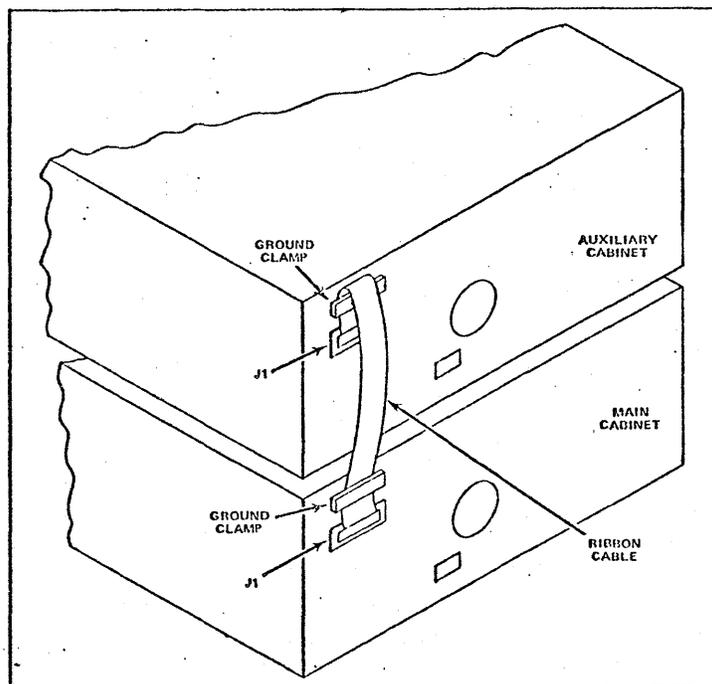

Figure 3-15. Plugging ribbon cable to connector J-1 on main and auxiliary cabinets.
Pin 1 of the cable is positioned to the left on both cabinets. This will position the ground braid out and the cable will be looped over at the top cabinet. Refer to Figure 3-15.
3. Install the ground clamps on each of the cabinets so that they trap the ribbon cable between the back of the cabinet and the clamp at the exterior ground strip on the ribbon cable. Tighten the screws securely, but do not overtighten. Refer to Figure 3-15.
Replace Figure 3-15 as shown below: